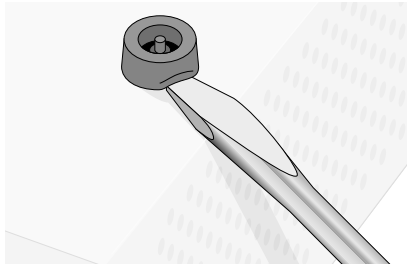

Figure 3 Removing the Feet
4. Remove the snap-on plastic feet from the bottom of the switch, as shown in Figure 3.